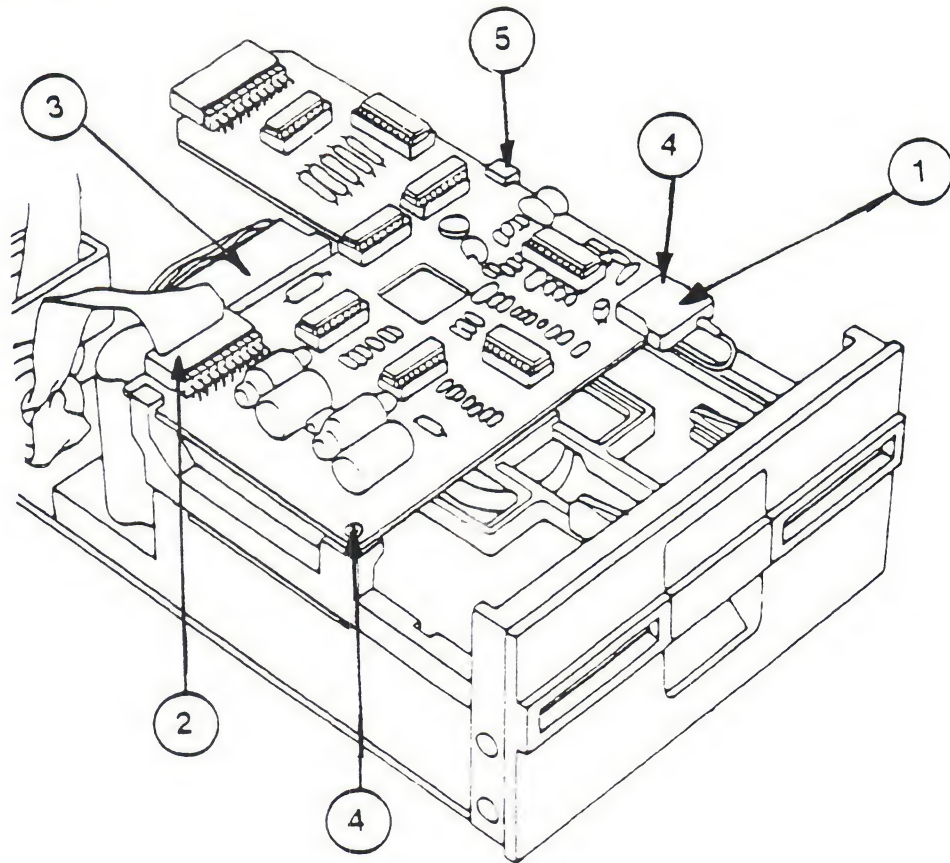

FIGURE 2
# Disk /// (Figure 2)
12. Lift up on the connector retainer of the board plug (Figure 2,#3) and remove the plug.
13. Remove the ribbon cable connector from the analog card (Figure 2,#2). It might be fastened very securely, so grasp the connector and pull back firmly until it disconnects. It may help to wiggle it gently back and forth as you pull back, but be careful not to bend the connector pins.
15. Remove head molex plug from front of analog card (Figure 2,#1).
16. Remove the two screws at the front of the analog card (Figure 2,#4).
17. Slide analog card forward past the retaining slots at the rear and then lift out (Figure 2,#5).